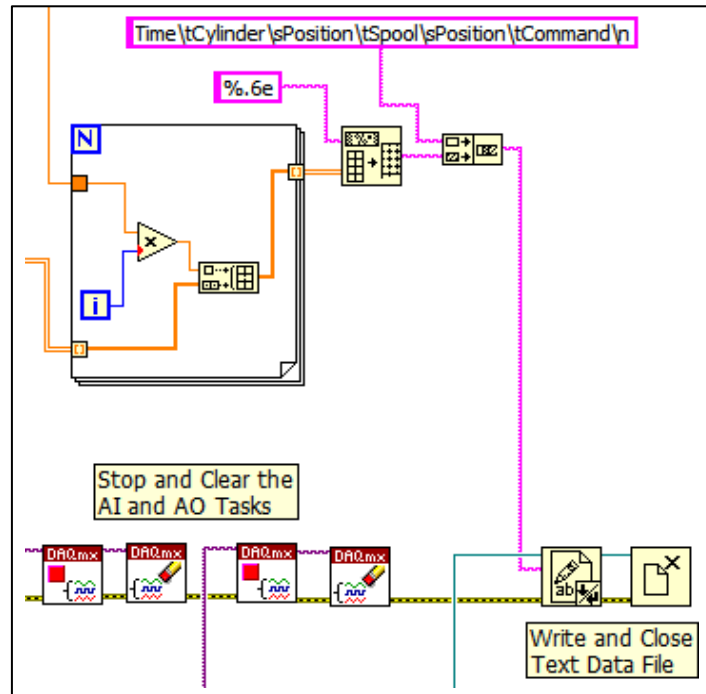

Fig. 8. Segment to Record Data and Stop Execution
- Clicking the **Write File/Stop** button (turning it **ON**), **ends** the “while loop”, **stops** and **clears** the I/O **tasks**, **writes** the data to a text file, and **closes** the file. This segment of the code is shown in Fig 8.